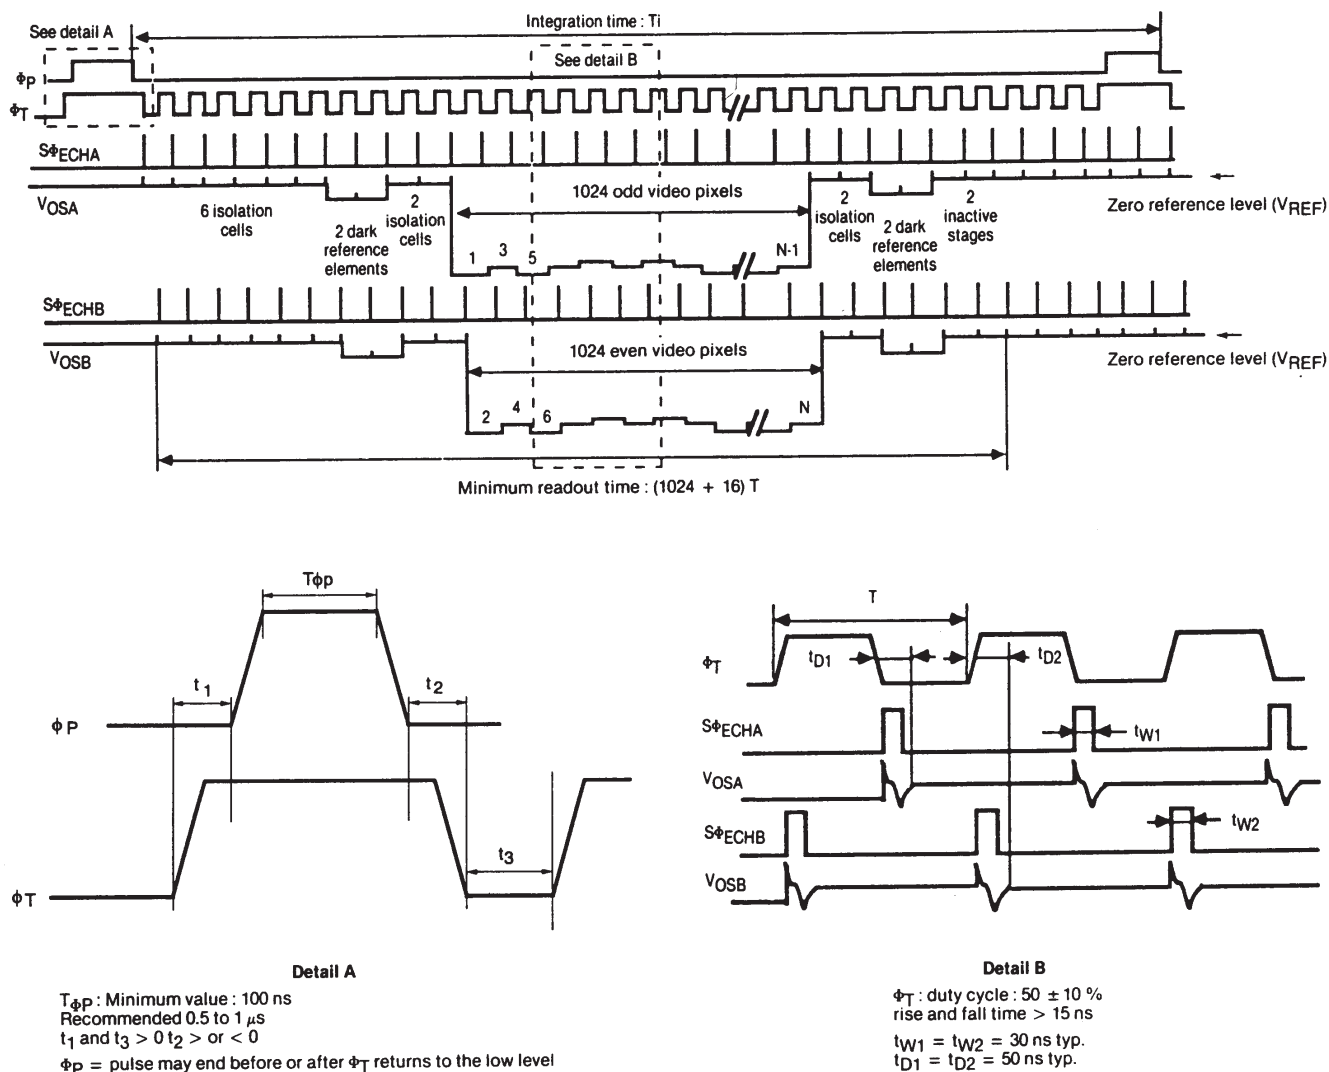

Figure 1 : Timing diagram
Table 3 : Drive clock characteristics (see timing diagram - figure 1)
**Note 1 :** Value measured with respect to zero reference level (see figure 1).